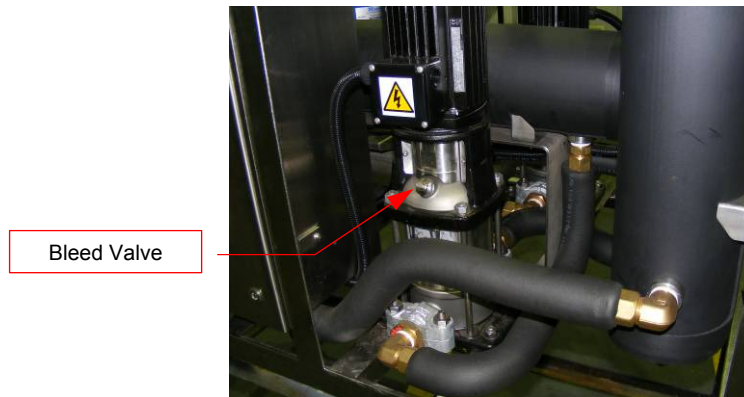

Figure 4 Circulation Pump
4. Open both of the priming ports (**Figure 4**) on the pumps housings (See **Appendix N**). This will allow air to purge from the fluid systems. Continue filling until fluid flows out of bleed valves. Then close the bleed valves.